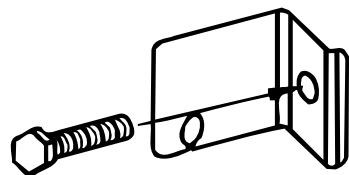

Figure 1
- B. Remove the bolt of the "up" pedal and place it through the bracket as shown on **Figure 1**.